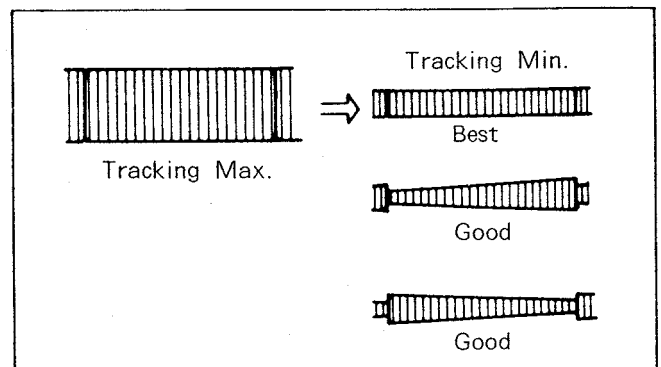

Fig. M11
8. Turn the Tracking VR from end to end. The variation of RF envelope should be nearly parallel as shown in Figure M11.
5. Turn the Tracking VR from end to end and then back to the detent position. Confirm that the RF envelope output level is maximized at the detent position. (Fig.M11)